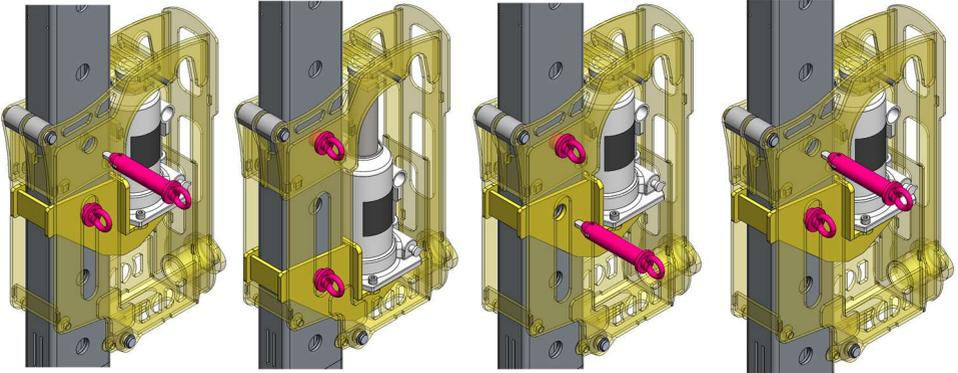

Figure 6 Climber unit pin sequence.
**NOTE!** Never leave load on bottle jack! When lifting / lowering is done make sure to insert main locking pin through climber unit's top hole! See Figure 6, picture 3.